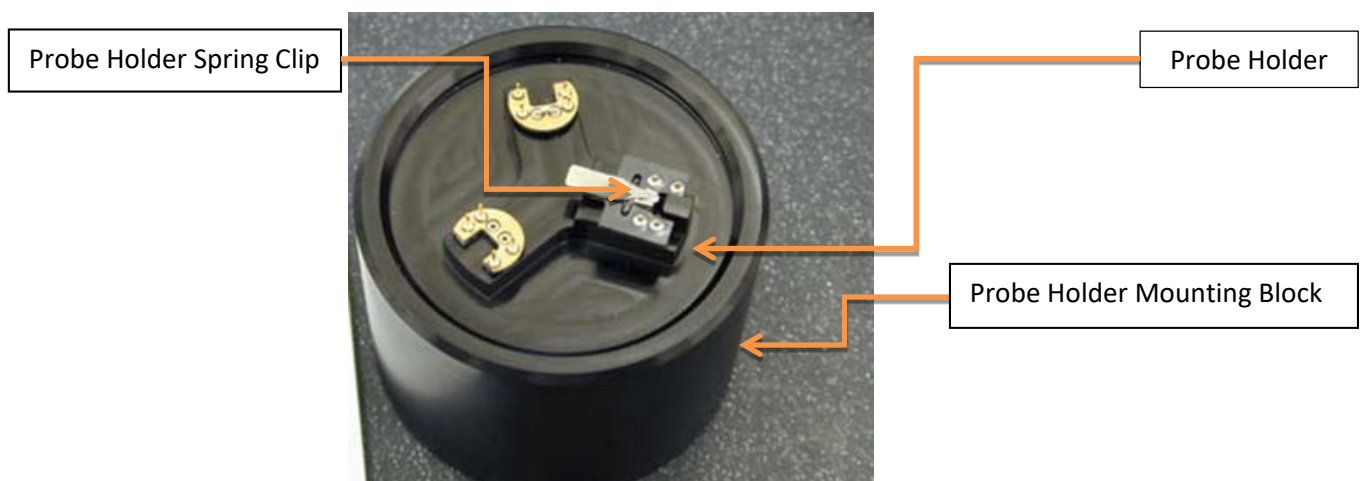
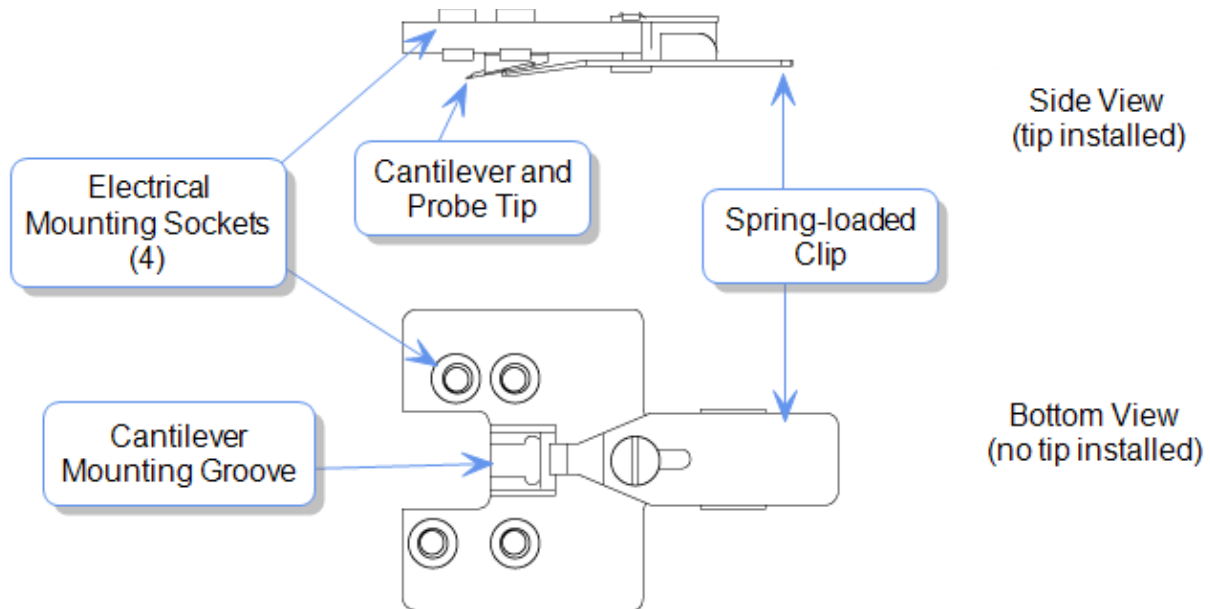
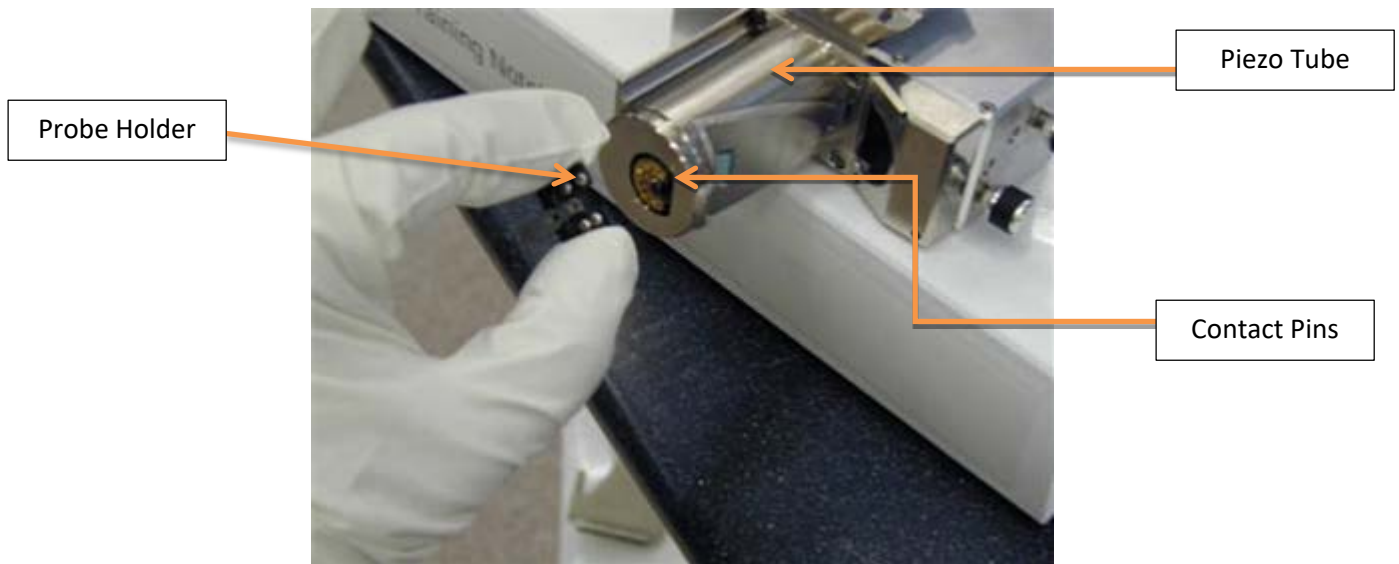

Figure 3. Probe holder mounting block with three probe mounting stations.
Figure 4. Schematic of the Icon head probe holder.
Figure 6. Installation of the probe holder on the Icon head.
- a) Before loading the probe, mount a probe holder on the Icon probe mounting block (Figure 3) to provide a stable surface while loading.
- b) Mount a probe on the probe holder and secure it with the probe holder spring clip (Figure 3 and Figure 4).
- ii) Gently manipulate the probe with a pair of tweezers as necessary to align it properly. See Figure 4 for a detailed schematic of the probe holder.
- 7) Grasp the handle on the front of the Icon head and carefully remove the AFM head by sliding it up the dovetail holder. Install the probe holder and probe by aligning the holes on the probe holder (Figure 4) with the contact pins on the AFM head (Figure 6).